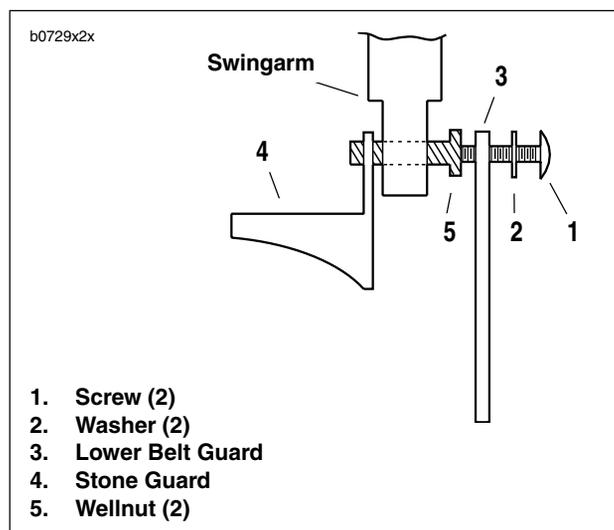

Figure 2-118. Stone Guard and Belt Guard Mounting
1. See Figure 2-118. Position stone guard (4) with wellnuts (5) and lower belt guard (3) on swingarm.
2. Secure with two screws (1) and washers (2).